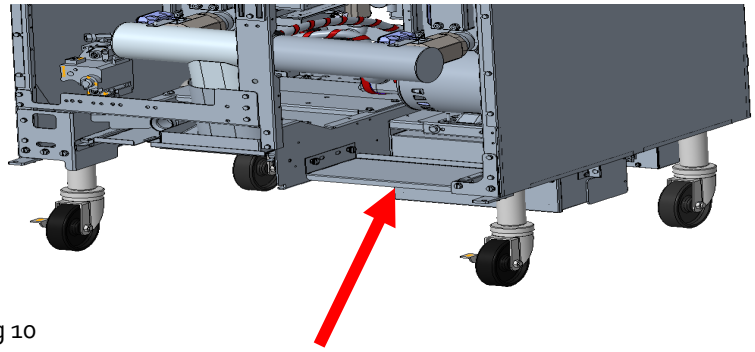

Fig 10
9. Remove the JIB cradle if it is already installed. Reattach the factory shipping brace if it was removed to remove the filter box and pump. (Figure 10).